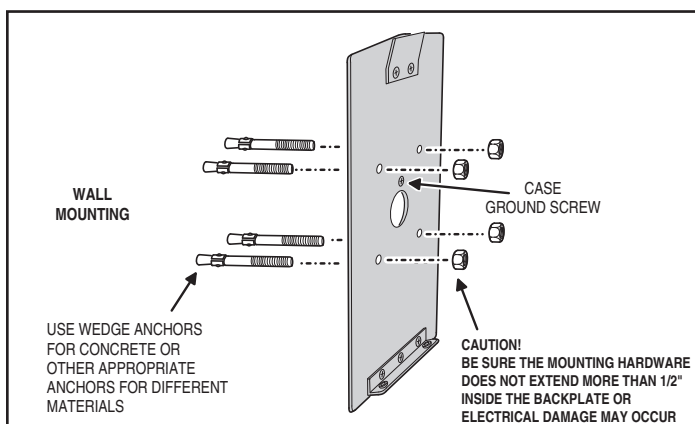

Figure 4. Wall Mounting Backplate
2. Use the appropriate fasteners to secure the system's backplate to the mounting surface. When mounting the system to a concrete wall, use concrete wedge anchors (see Figure 4).